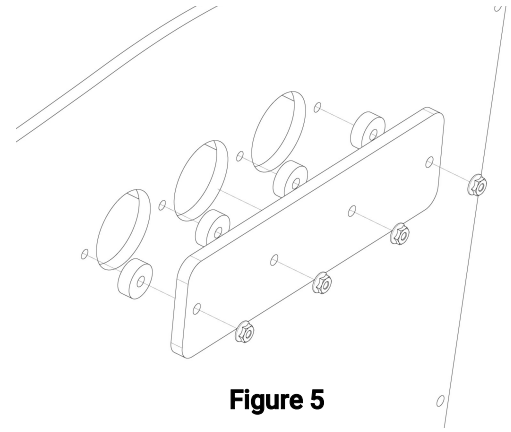

Figure 5
- G. Locate the (4) long length carriage bolts [3X167], (4) whiz nuts [3X16Z], (4) plastic spacers [4G5070P1], and divider cover plate [3P8010].
- H. Insert the carriage bolts [3X167] through the (4) bolt holes near the large vent holes in the divider. Insert the bolts from the passenger side so that the head of the carriage bolt is in the prisoner compartment.
- I. Slide (1) spacer [4G5070P1] onto each of the carriage bolts then slide the divider cover plate [3P8010] onto the bolts and cap with the whiz nuts [3X16Z] (Fig 5).